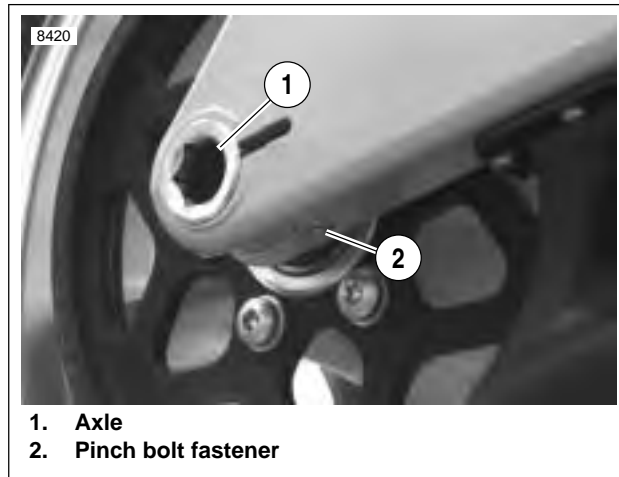

Figure 1-42. Rear Wheel Mounting, Right Side
1. See Figure 1-42. Loosen rear axle pinch fastener (2).
- See Figure 1-42. Tighten rear axle to 48-52 ft-lbs (65-70 Nm).
- Tighten rear axle pinch fastener (2) to 40-45 ft-lbs (54-61 Nm).